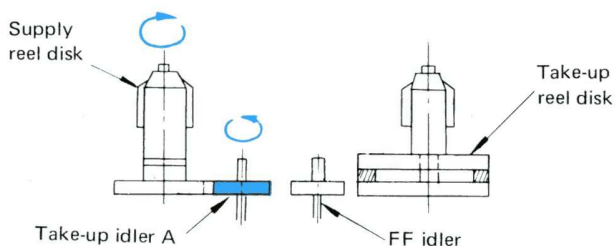

Fig. 11 REWIND mode
- 4) Idler A comes in contact with supply reel disk (Fig. 11).